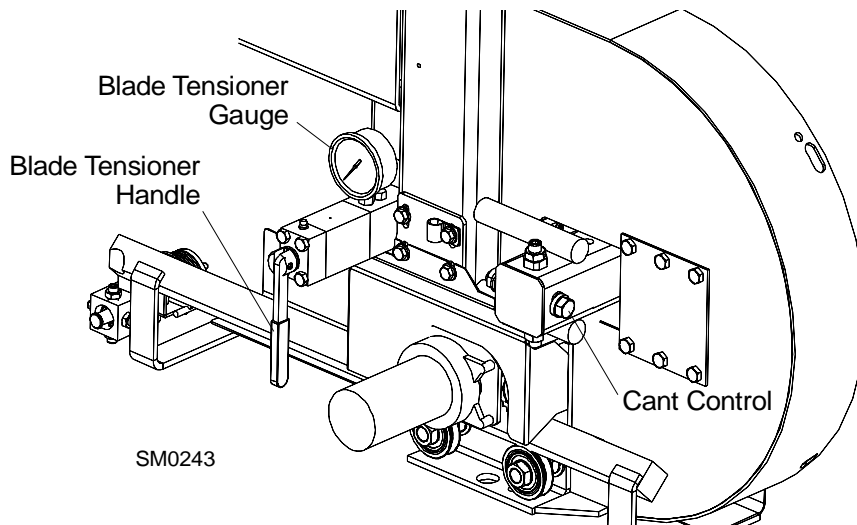

FIG. 3-11
See Figure 3-11. Tension the blade by turning the hydraulic tensioning handle clockwise until the tension gauge indicates the recommended tension.
5. To adjust where the blade travels on the blade wheels, use the cant control shown in Figure 3-11.